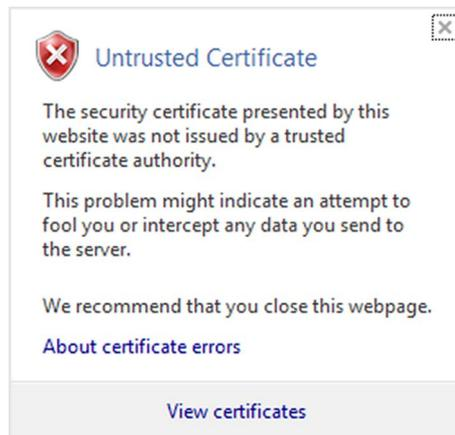

FIGURE 1-9
- c) At the right of the address bar, click **Certificate Error**. The *Untrusted Certificate* pop-up window is displayed (see FIGURE 1-9).